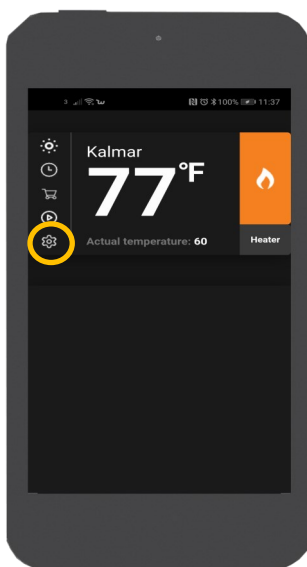

Fig 3.
5. Open your E-Smart app and the home screen appears (Fig 3)
6. Click the settings icon (yellow circle Fig 3.) and scroll to the bottom of the screen. Enter your email address and select a password for your account and click save and connect. This will create your account with Evonic Fires.